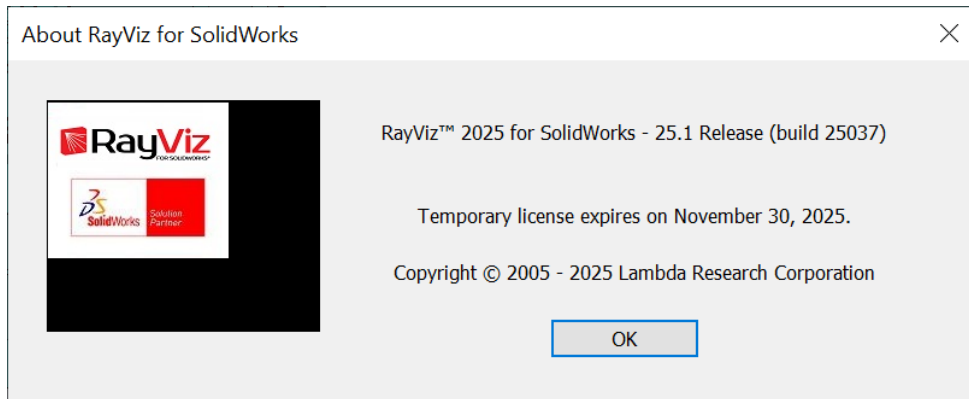

Figure 3.7 About RayViz for SOLIDWORKS dialog.
- **About RayViz...:** This selection shows the about box for RayViz as shown in Figure 3.7. Of importance in this dialog is the Version, License Information and Build Numbers, which you can refer to when asking Technical Support or update questions. Select **OK** when done.